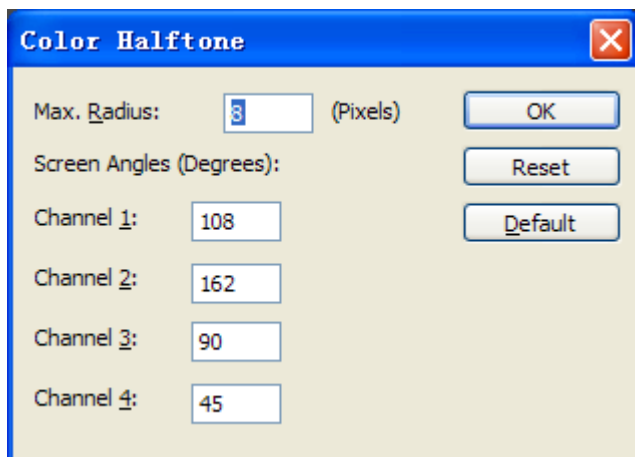

Figure 5-6
1、 Select Filter/ Pixelate / Color Halftone , a window will pop up, such as figure 5-6.